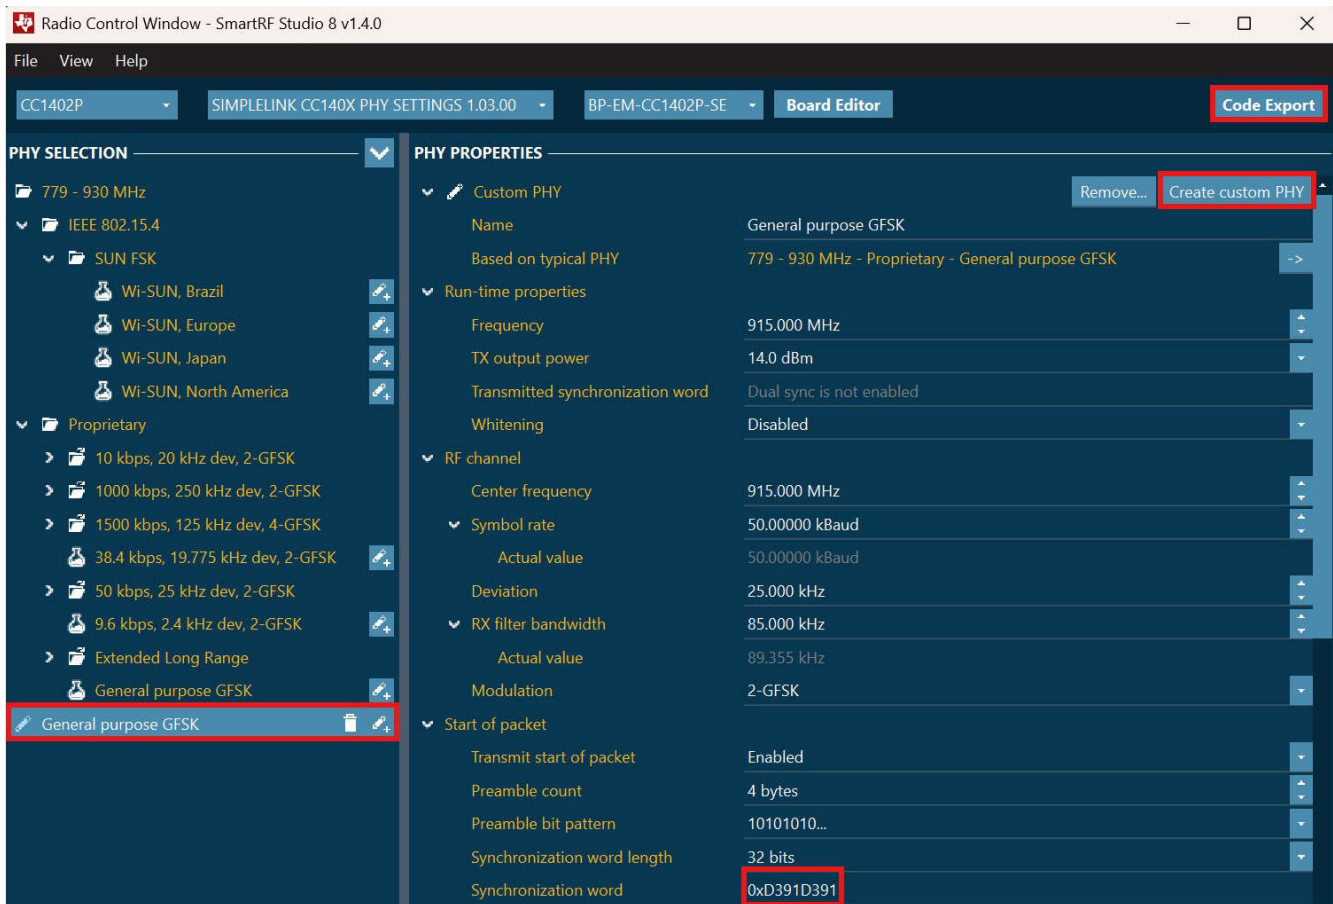

Figure 3-1. Export Modified genFsk PHY
2. Under PHY SELECTION in SmartRF Studio (see Figure 3-1).